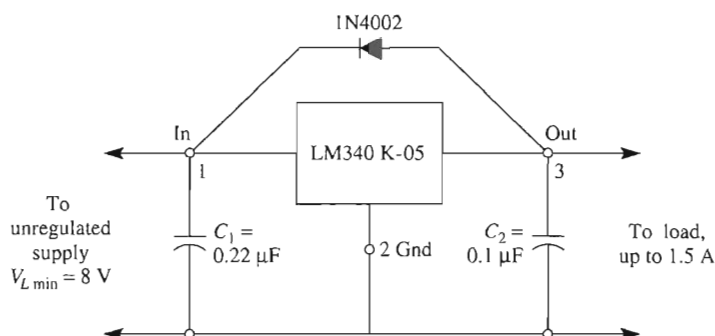

FIGURE 16-11 A TTL digital logic regulated power supply (5 V at 1 A.)
A $+5\text{ V}$ digital power supply for TTL logic or certain microprocessors is shown in Fig. 16-11. The K package of the LM340-05 is a steel TO-3 case and should be heat sunked
$V_{L \min}$ for the unregulated FWB supply should allow 3 V of headroom and should be greater than $(3 + 5) \text{ V} = 8 \text{ V}$ (see Fig. 16-11). Choose a 12.6-V transformer ($1.8 \times 1 \text{ A}$) at a 2-A current rating. From Sections 16-2 and 16-3: (1) $V_{\text{dc NL}} = 12.6 \text{ V} \times 1.4 = 17.8 \text{ V}$. (2) Assume that $R_o = 6 \Omega$. If $I_{L \text{ FL}} = 1 \text{ A}$, then $V_{\text{dc FL}} = 17.8 \text{ V} - 6 \Omega(1 \text{ A}) = 11.8 \text{ V}$. (3) Pick a 1000- μF filter capacitor to give a $\Delta V_o = 5 \text{ V}$. Thus, $V_{L \min}$ should be at least $11.8 \text{ V} - (5 \text{ V}/2) = 9.3 \text{ V}$, leaving some margin. Pick the capacitor WVDC $\geq 25 \text{ V}$ and diodes with a 25-V PIV rating. The diode current rating should exceed 1 A.